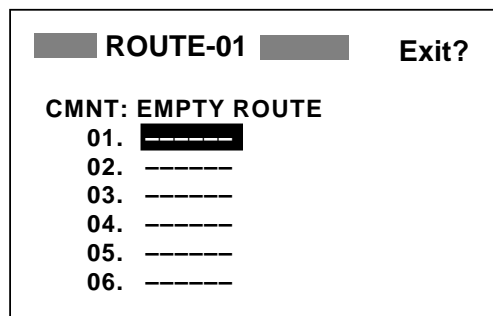

Figure 4-3 Screen for entering route
4. Press the [ENT] key. The screen shown in Figure 4-3 appears.